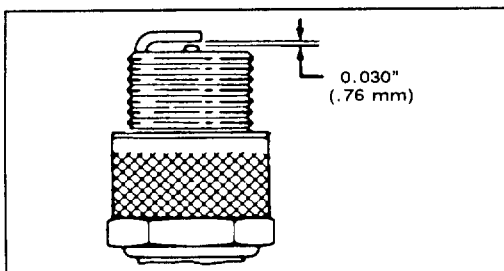

Figure 21
3. Set air gap at 0.030" (0.76 mm) (Fig. 21). Install correctly gapped spark plug and gasket seal. Tighten plug firmly to 15 ft-lb (20 N-m).